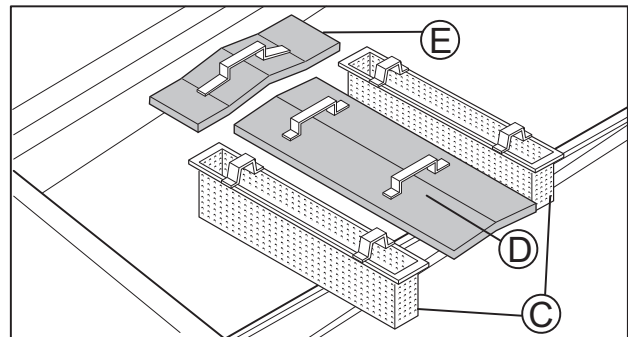

Figure 24 Tank filters
- Remove the tank filters "C" - "D" - "E" (Figure 24).